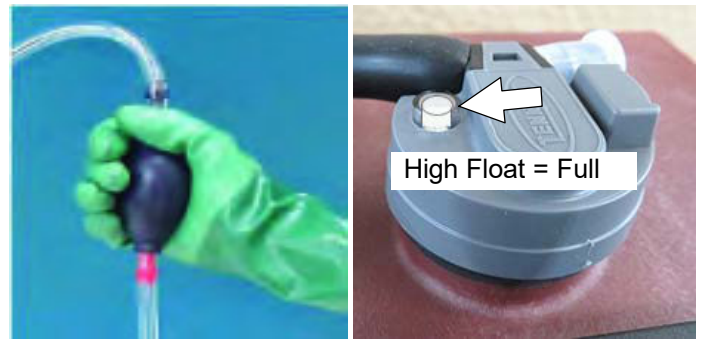

FIG. 6
5. Squeeze the bulb on the hand pump hose until firm. The indicator float will rise when full (Figure 6).